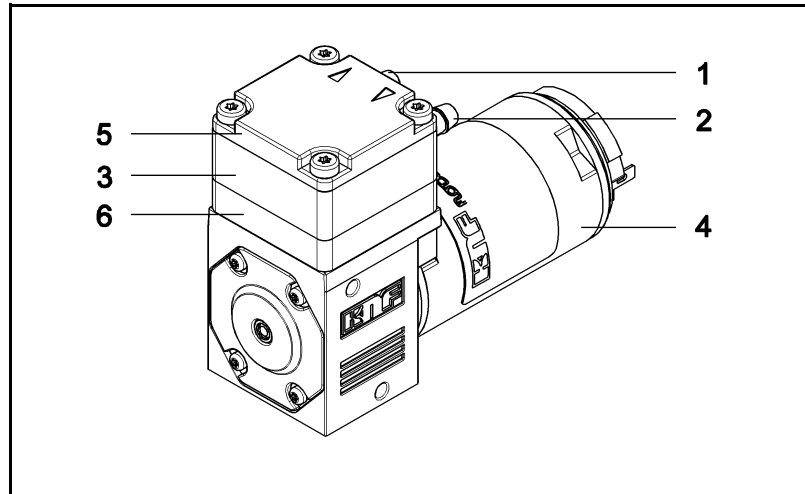

Fig. 1: Diaphragm liquid pump NF 60
* The pump head (Fig. 1) comprises a connecting plate and an intermediate plate